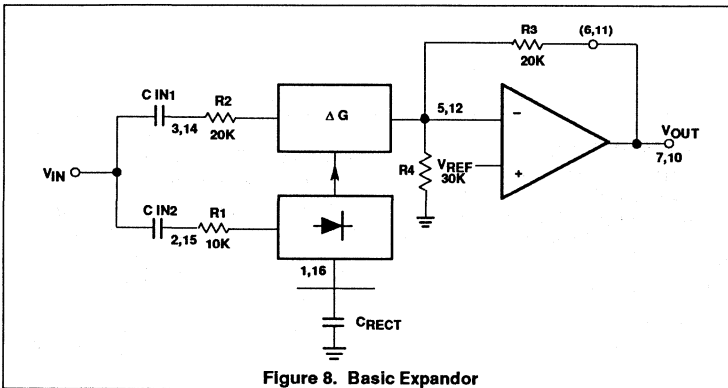

Figure 8. Basic Expander
1) DC bias the output halfway between the supply and ground to get maximum headroom. The circuit in Figure 8 is designed around a system supply of 6V so the output DC level should be 3V.